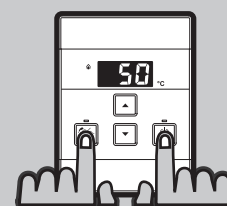

Fig. 3
STEP 1: For the water controller in the kitchen only, press and hold the 'Priority transfer' and 'On/Off' buttons simultaneously (Fig. 3) until a 'beep' is heard (approximately 5 seconds).